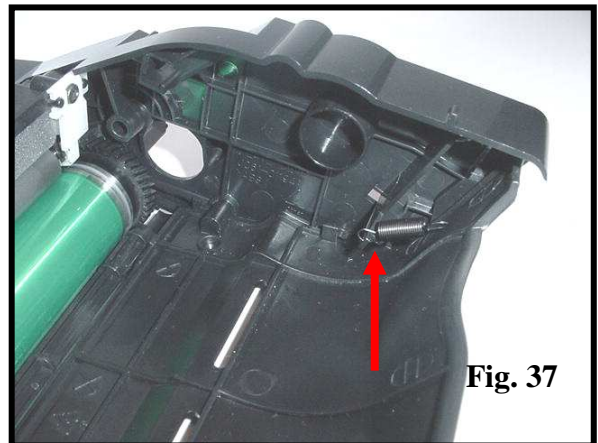

Fig. 34
34. Clean or replace all components and reassemble the drum unit in reverse order (Fig. 34).